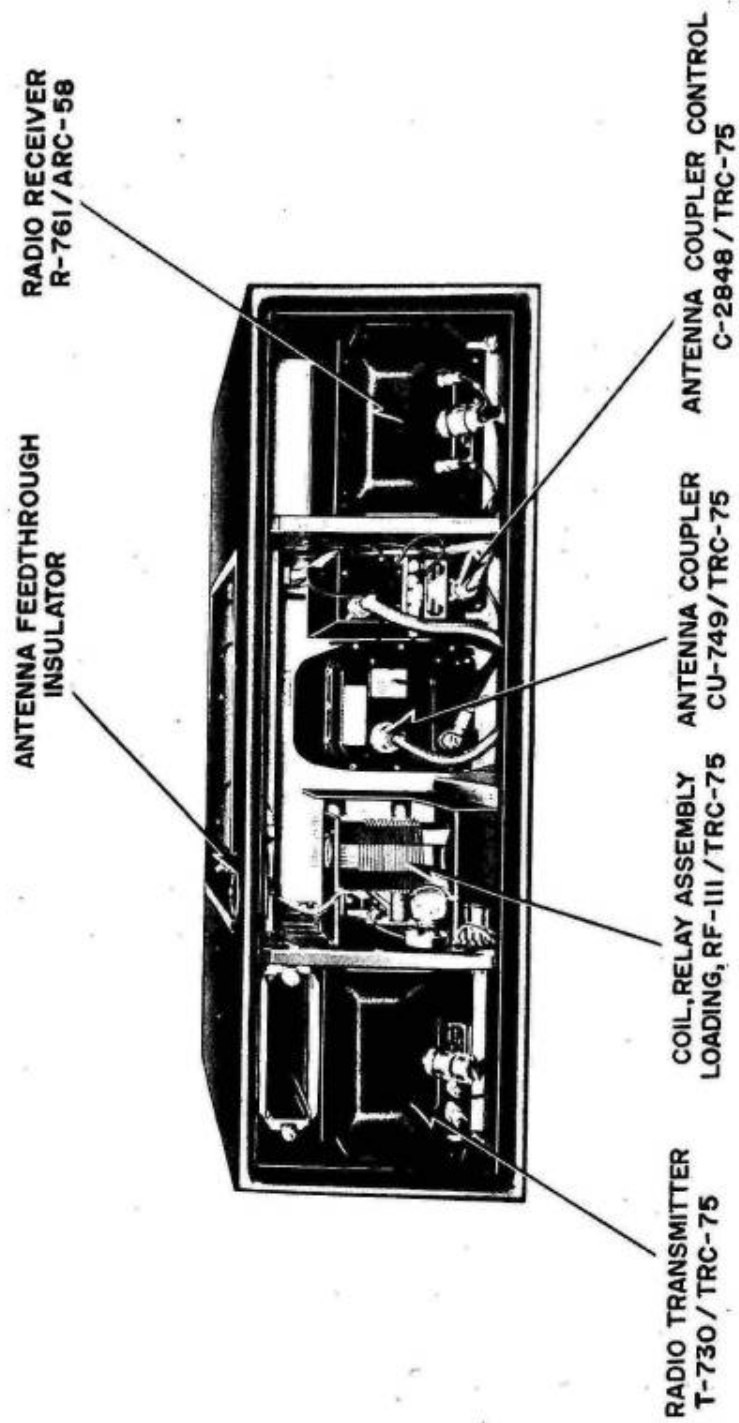

FIG 12 - RADIO SET AN/TRC-75 (DUPLEX) WITH REAR COVER REMOVED
47. A rear view of the case with the cover removed, showing major units and accessories, is shown in Fig 12.
#### Radio Receiver R-761/ARC-58 (Fig 12)
#### Radio Transmitter T-730/TRC-75 (Fig 12)
#### Antenna Coupler CU-749/TRC-75 (Fig 12)
#### Antenna Coupler Control C-2848/TRC-75 (Fig 12)
#### Coil, Relay Assembly Loading RF111/TRC-75 (Fig 12)
74. This radio receiver is identical to that used in Radio Set AN/TRC-75 described in paras 48 to 51 (see Fig 12). The portions of those paragraphs which relate to transmission do not apply.